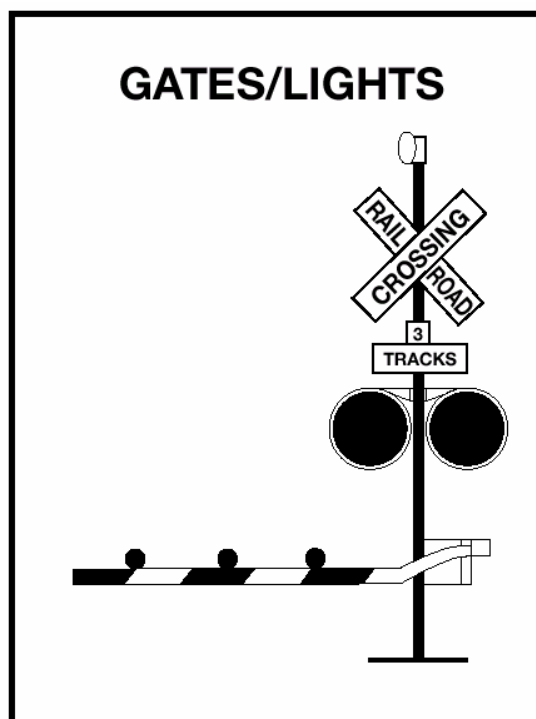

Figure 10.8
**Flashing Red Light Signals.** At many high way-rail grade crossings, the crossbuck sign has flashing red lights and bells. When the lights begin to flash, stop! A train is approaching. You are required to yield the right-of-way to the train. If there is more than one track, make sure all tracks are clear before crossing. See Figure 10.8.
**Gates.** Many railroad-highway crossings have gates with flashing red lights and bells. Stop when the lights begin to flash and before the gate lowers across the road lane. Remain stopped until the gates go up and the lights have stopped flashing. Proceed when it is safe. If the gate stays down after the train passes, do not drive around the gate. Instead, call your dispatcher. See Figure 10.8.